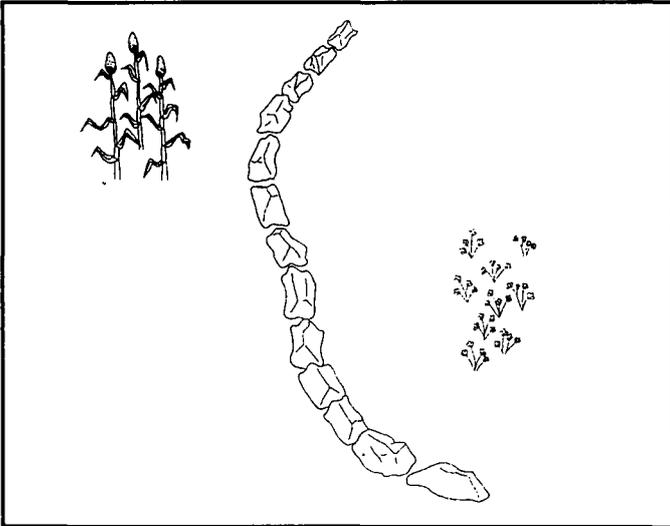

FIG 14: STONE LINES
1. At the start, a cross-section or "profile" of a typical catchment in the Koutiala area was used (see fig 14) to help plan for solutions to the overall conservation problem.